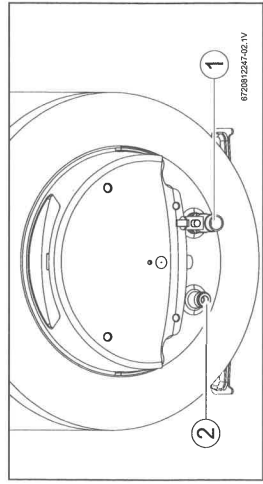

Fig. 9
- ▶ Identify the piping for hot and cold water, in order to avoid a possible swap (Fig. 9).